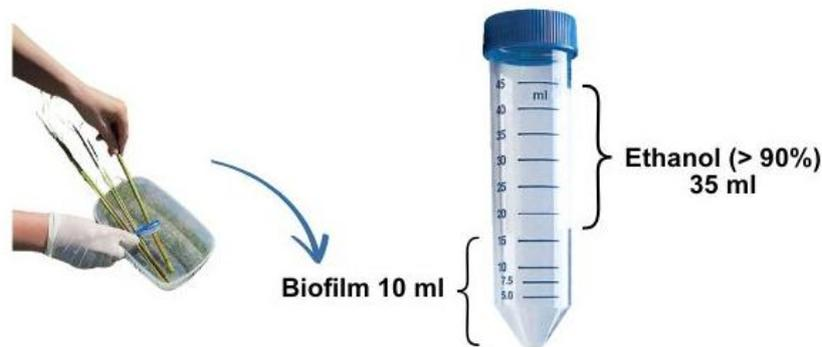

Figure 4. Schematic sampling procedure in the field when macrophytes (etc., Typha) are available.
- Complete the tube with 90% ethanol (or > 90%) up to 45 ml (leave 5 ml of empty space from the top) (Figure 4);